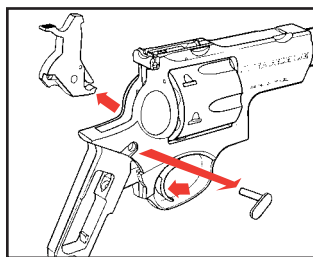

Figure 6
5. Pull trigger and remove hammer pivot while holding trigger in a rearward position. Lift hammer out of the top of the frame while trigger is held in a rearward position (see Figure 6).